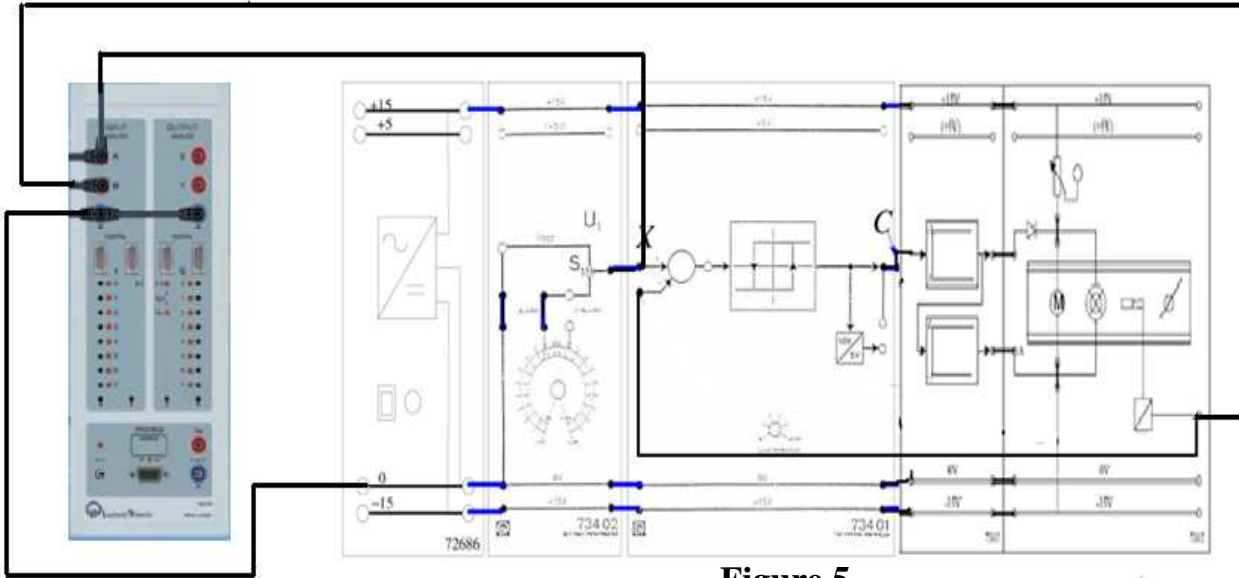

Figure 5
- 2- Set up the experimental arrangement as shown in the block diagram of Figure 5.